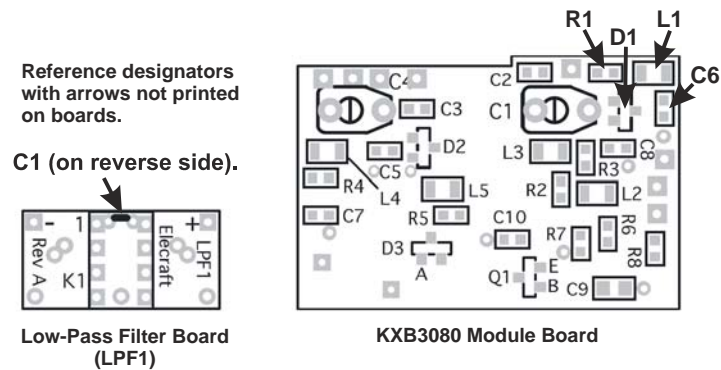

Figure 5. Parts Placement Diagrams.
Figure 5 shows the layout of the parts on both of the PCBs. Refer to these figures as needed while performing the following procedures.
- Install the two trimmer caps on the KXB3080 PCB. The orientation is important! Align the trimmers with the outlines silk-screened on the PCB (see Figure 5).